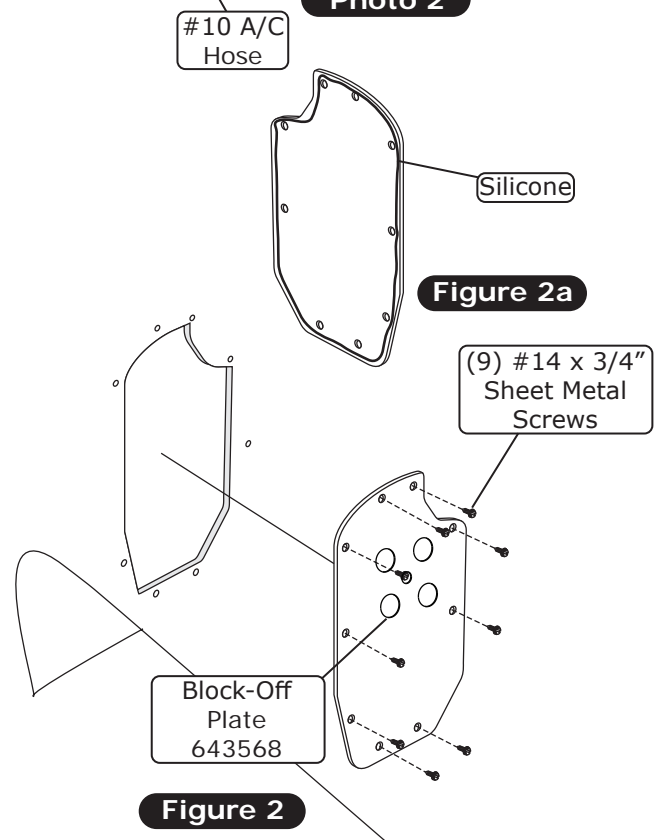

Figure 2
7. Install the block-off plate onto the firewall using (9) #14 x 3/4" sheet metal screws as shown in Figure 2, below.